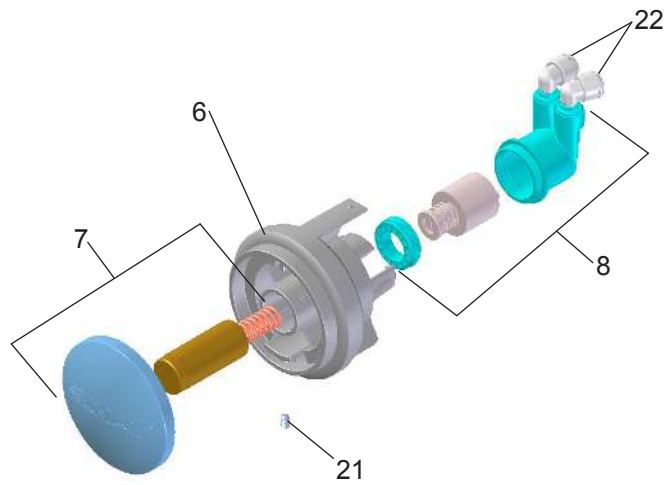

Figure 8 - Push Button Assembly
14. **Check** stream height from bubbler. Stream height is factory set for 35 PSI supply. If supply pressure varies greatly from this, remove push button (Item 7 - Figure 8) and adjust the screw on the regulator (Item 8 - Figure 8). To remove push button, remove setscrew from bottom of sleeve (Item 21). Insert a small punch in screw hole and push up while grasping the push button and pull forward removing the push button. Clockwise adjustment will raise stream height and counterclockwise movement will lower stream height. For best adjustment stream should hit basin approximately 6-1/2" from the bubbler. Reassemble the push button by pushing in on button until the push button catches in the sleeve. Reinstall the setscrew (Item 21) in the sleeve (Item 6).